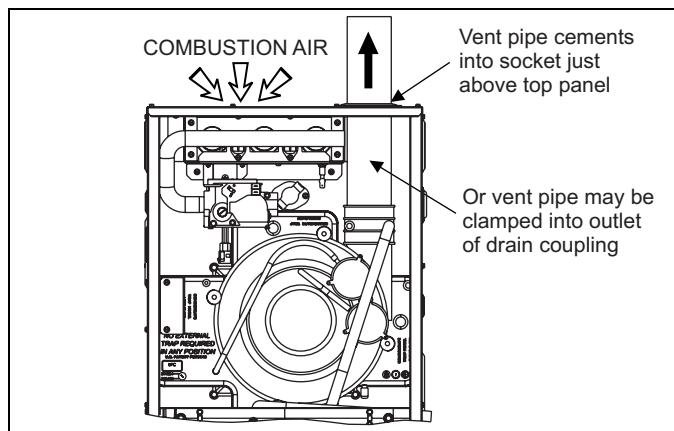

FIGURE 36: Combustion Airflow Path Through The Furnace Casing
- AMBIENT COMBUSTION AIR:** Combustion air is supplied from the area surrounding the furnace through openings in the furnace casing. The combustion air and the vent pipes are not terminated in the same atmospheric zone. Refer to Figure 21 for vent terminations. Refer to "Ambient Combustion Air Supply" for proper installation. Refer to Figure 36.